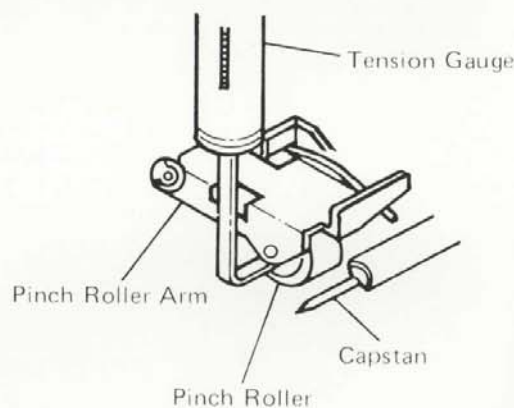

Fig. 11
1. Setting the mechanism vertically in the playback mode, the pinch roller should stop turning at the pressure of 380~450 g when the pinch roller arm has been pulled upwards by tension gauge as shown in Fig. 11.